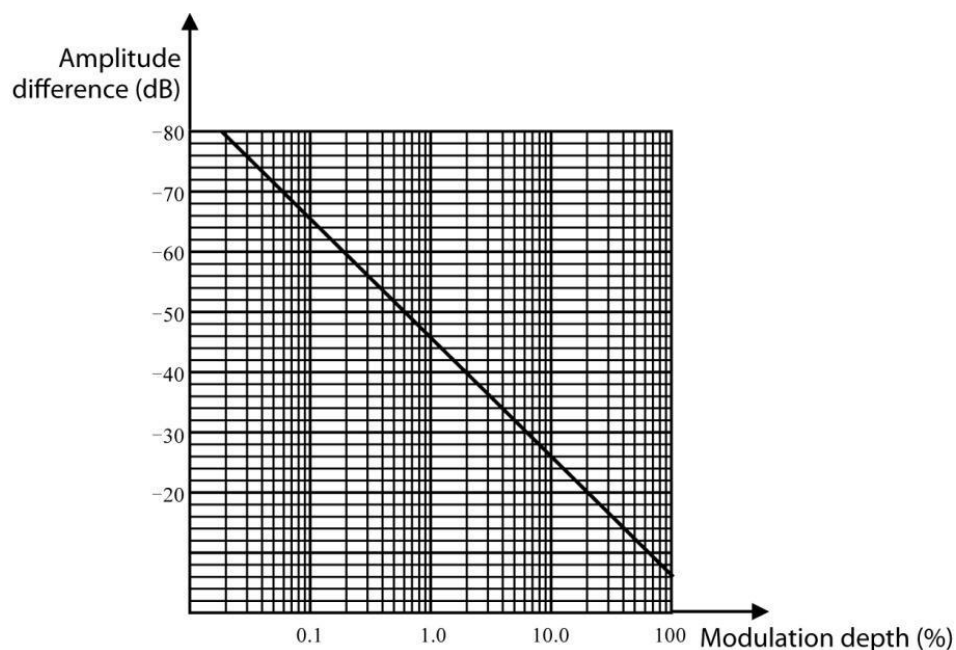

Fig. 4.34 Relation graph of modulation depth and amplitude difference
- Press **【Peak Search】**, [Delta Marker] and [Next Peak] to get the difference between the carrier and the sideband signal. The frequency difference of two signals can be read via the delta marker, which is the modulation speed of the measured AM signal and used to determine modulation depth as shown in Fig. 4.34.